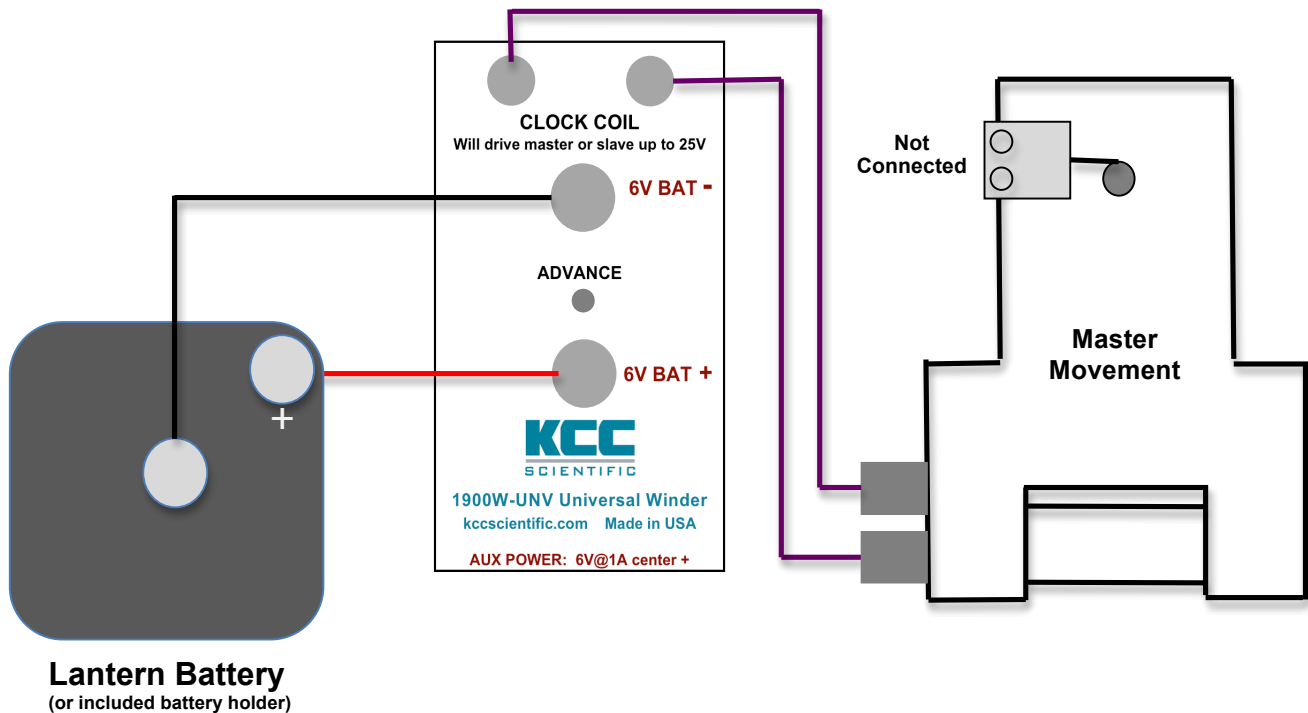

Figure 1: Connecting the 1900W-UNV. The minute contactor is not connected to the 1900W-UNV.
3. Connect the Lantern battery and the 1900W-UNV as shown in Figure 1. **NOTE: A red wire should be connected to the + terminal of the battery and then to the +BAT terminal of the 1900W-UNV. A black or green wire should be connected to the – terminal of the battery and then to the –BAT terminal of the 1900W-UNV. NOTE: The included battery holder for 4 D alkaline batteries can also be used with Master Clock installations.** The included battery holder has wires and lugs installed for ease of installation. The **RED** terminal should be connected to **+BAT**. The **BLACK** terminal should be connected to **–BAT**.